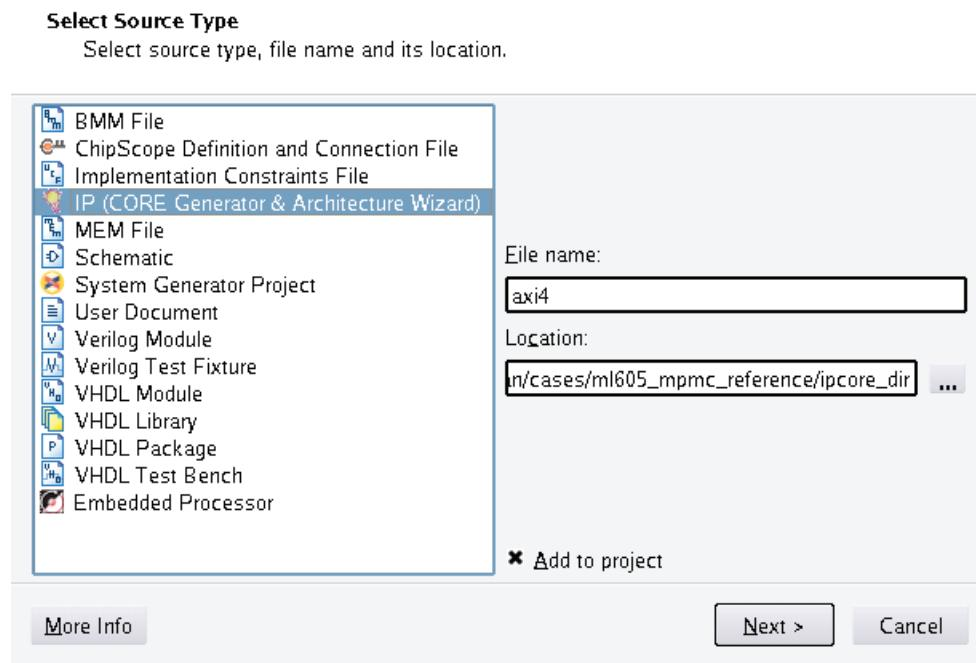

Figure 55: New Source Wizard - Source Type Menu
47. For the Source Type, select **IP**, then enter the file name **AXI4** and the location should default to `<user_dir>/ipcore_dir`. Click **Next** (Figure 55).